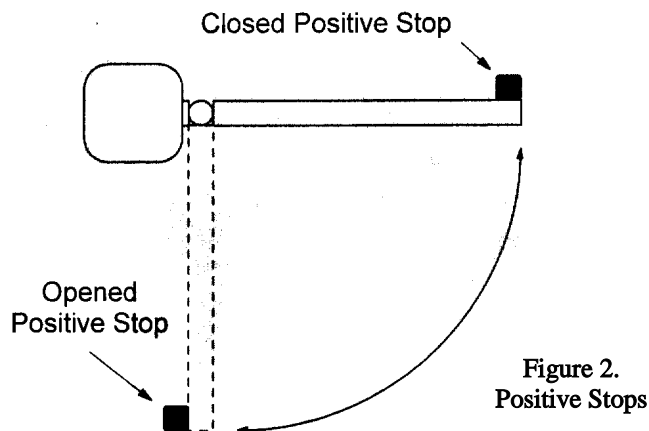

Figure 2.
3. Provide positive stops for the gate leaves in the fully open and fully closed positions (see Figure 2).